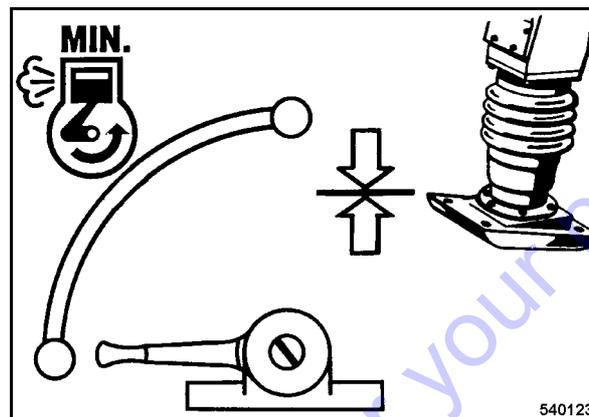

Fig. 23
- During short breaks you should always set the throttle lever to "MIN"-position (Fig. 23).